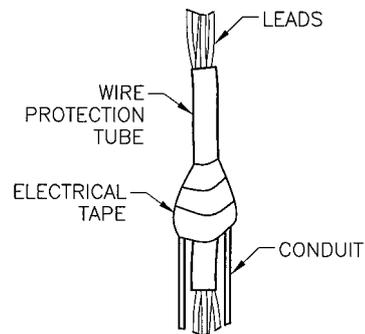

Figure 8
- To help prevent damaging wires during installation, fit the wire protection tube provided in the Electrical Fitting Kit over wires and half way into conduit. (temporarily secure with adhesive tape) See Figure 8